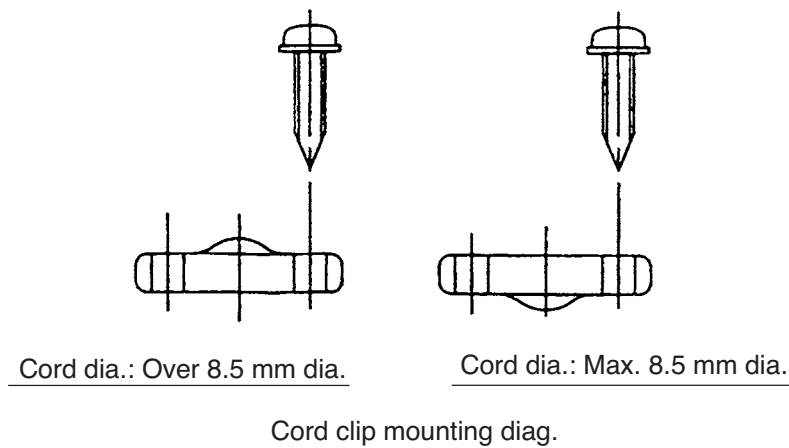

Fig. 17
(6) Mount the cord clip as shown in Fig. 17 being careful of the direction.